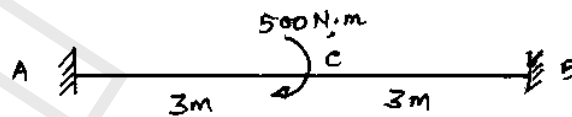

Fig. 3
12. (a) For the fixed beam shown in Fig. 3, draw the SFD and BMD.